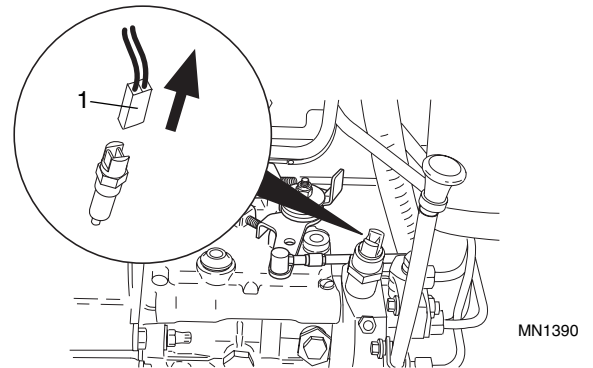

Figure 4-2 Fuel Run Solenoid Connector
3. Disconnect the Fuel Run solenoid connector (Fig. 4-2, 1) and turn the engine over with the starter at 15 second intervals until you get a pressure reading of at least 75 psi (5,18 bar), or a minimum of three 15 second intervals if not checking with a gauge. This permits the implement pump to draw oil from the reservoir, ensuring the system is full before starting engine and operating the hydraulic functions. Reconnect the wire.